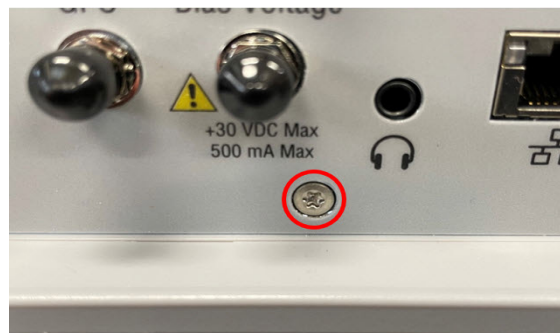

Figure 5-7. Top Panel Removal
4. Remove the Torx screw on the top connector panel using a T10 screw driver. See Figure 5-7.